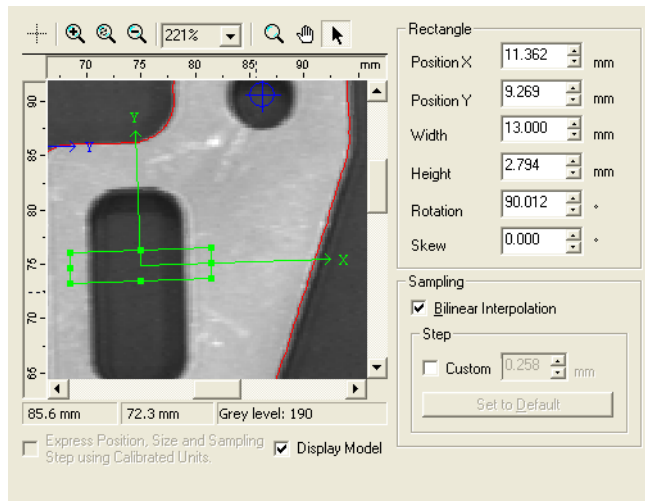

Figure 31 Adjusting the Size, Position and Orientation of the Caliper Rectangle
8. Place the Rectangle on the part as shown in Figure 31.